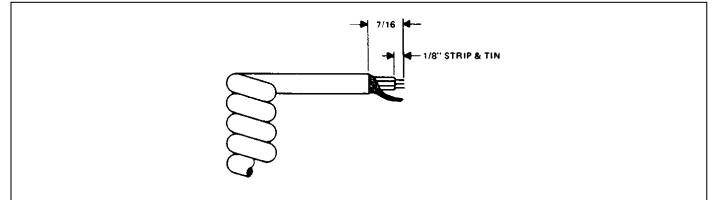

Fig. 2. Microphone Cable Preparation
1. Cut leads so that they extend  $7/16$ " beyond the plastic insulating jacket of the microphone cable (see Fig. 2.)